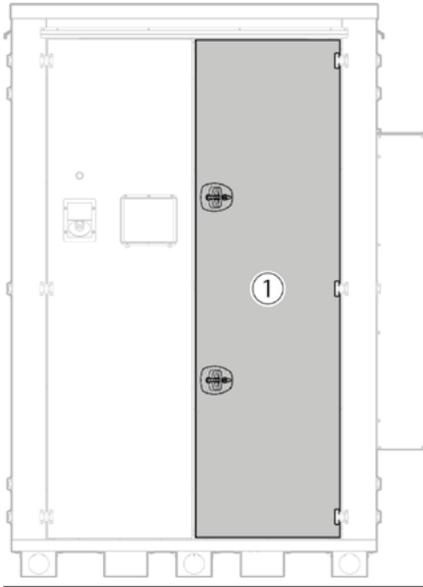

Fig. 8.3 - Door opening
1. Open the right door of XL Shell 220 to access the terminal block (Fig. 8.3).
17. Close the cabinet door (Fig. 8.3).